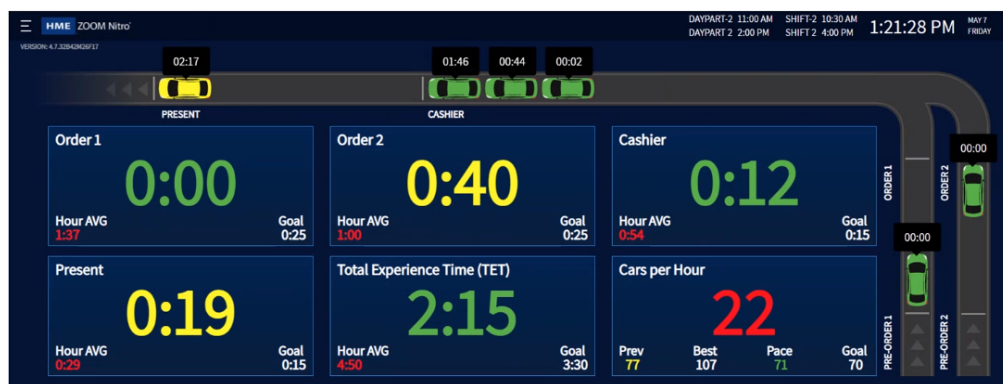

Fig. 7.9
3. Return to the Dashboard to see affected change. See Fig. 7.9. (lower middle pane).